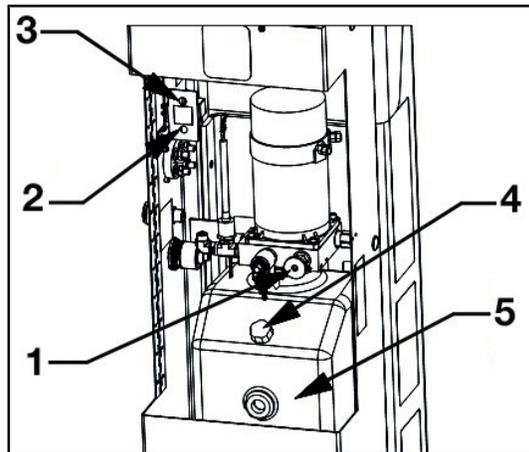

Fig. 17: Manual controls
2. Each person must one at a time hold the manual raise/lower toggle switch down (Fig. 17). No motion should occur yet. If a lift unit lowers, release all manual raise/lower toggle switches, then verify all needle valves are closed (i.e., turned completely clockwise).
3. Each person should slowly open the needle valve located on the power unit to begin descent while holding manual raise/lower toggle switch down (Fig. 17).
The hydraulic reservoir is mounted inside the lower cover (Fig. 17, Pos. 5).
5. Visually check the hydraulic oil level. The fluid level should be within a range from the bottom of the word “MONARCH” to 1” below the bottom of “MONARCH”. If the fluid level is low, remove the oil fill plug (See Fig. 17, Pos. 4) and add a high-grade hydraulic fluid equivalent to Phillips 66 Megaflow AW22 HVI. Do not overfill the reservoir. An air gap is required at the top for fluid expansion and to prevent spilling when moving the lift unit.
3. Raise the carriage by pushing up on the manual raise/lower toggle switch and pushing in on the manual raise push button (Fig. 17, Pos. 3). Raise the carriage approximately two feet off the ground.
7. When you get down from the ladder, lower the carriage by pushing down on the manual raise/lower toggle switch and opening the needle valve on the power unit (Fig. 17, Pos. 1).
3. Open the door and push down on the manual raise/lower toggle switch (Fig. 17, Pos. 2). You should hear the down stop catch pawl move backward, the yellow light should illuminate, and the green light should turn off while the toggle switch is held down.